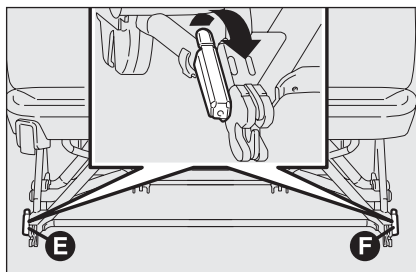

fig. 35
- from vertical position, turn levers **E** and **F**-fig. 35 upwards;